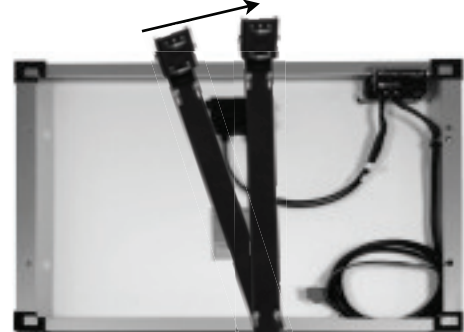

Figure 3B
7. Rotate the Mounting Arm and secure it to the Solar Panel by tightening the Carriage Bolts. (Figure 3B).